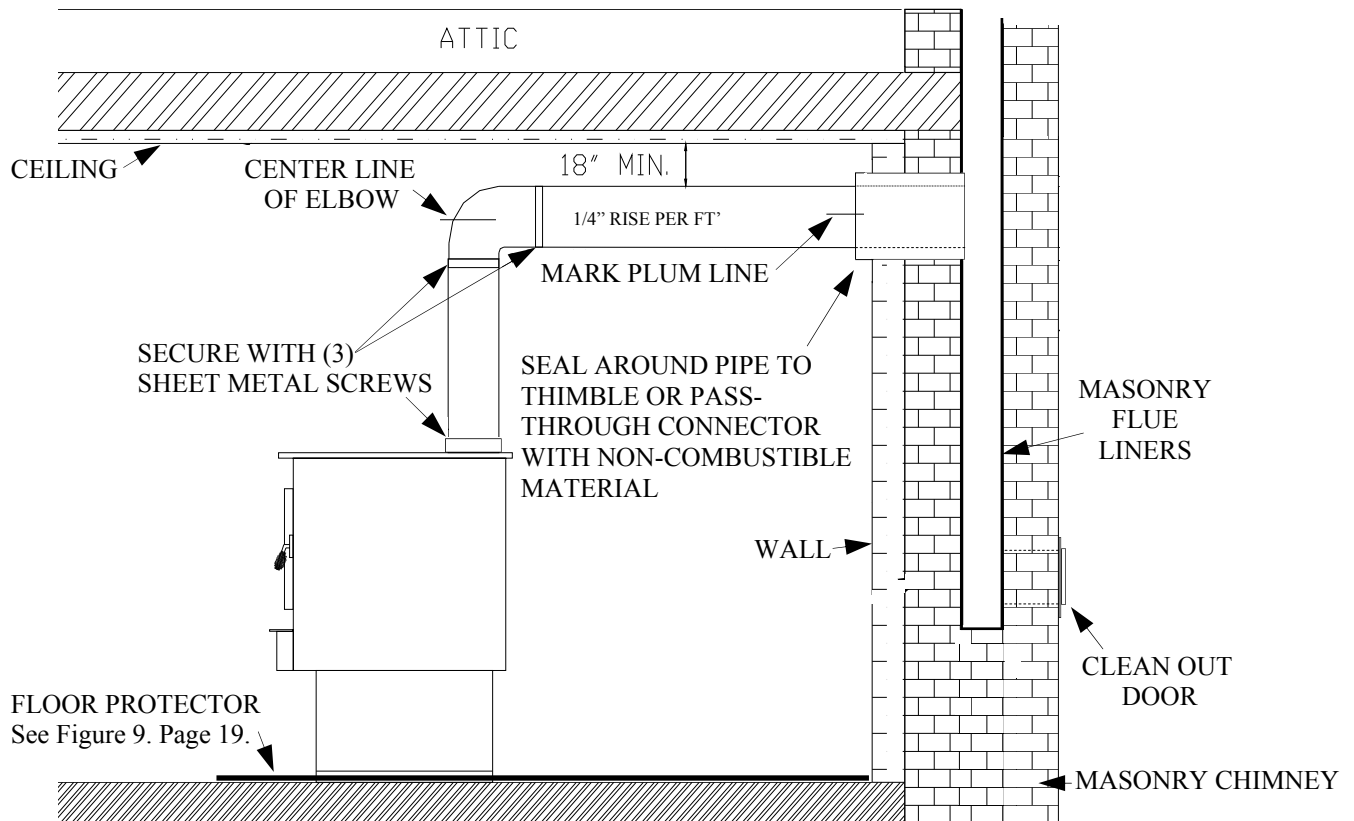

Figure 7
5. Connect the chimney connector to the tee-box using #24 ga. minimum blue or black steel connector pipe. **DO NOT** use galvanized pipe. Connect each section so the crimped end faces downward, and secure each section to each other using three (3) sheet metal screws or rivets. (See Figure 7.)